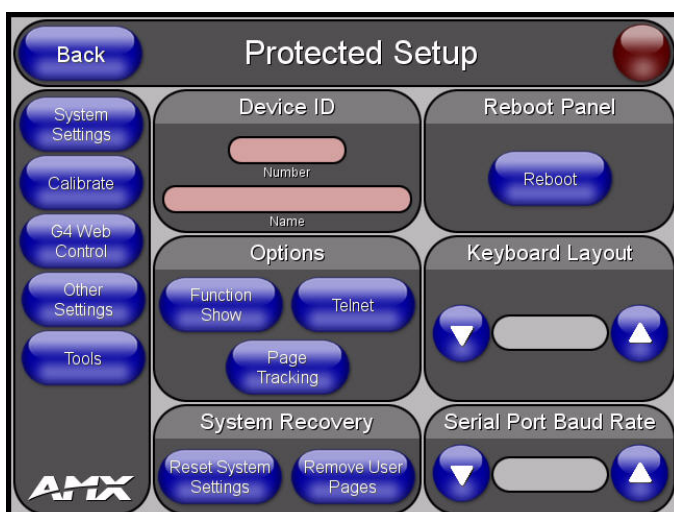

FIG. 33 Protected Setup page
6. Press the **Protected Setup** button (located on the lower-left of the panel page) to open the *Protected Setup* page (FIG. 33).
6. Press the **Protected Setup** button (located on the lower-left of the panel page) to open the *Protected Setup* page (see FIG. 33 on page 40).